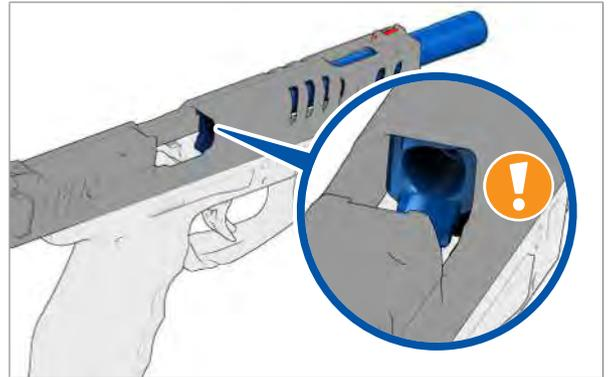

Fig. 15: Look into the chamber
3. Look into the chamber (*Fig. 15*). There must not be a cartridge in the chamber. If there is a cartridge in the chamber, then a fault is present. ▶ Faults: Causes and remedies.